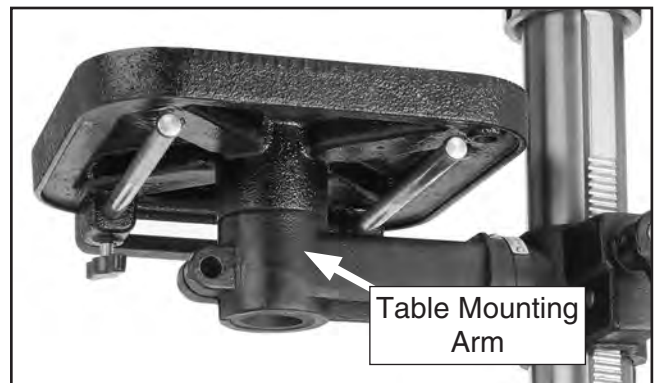

Figure 15. Table installed into table arm.
- Install table into table mounting arm (see **Figure 15**).